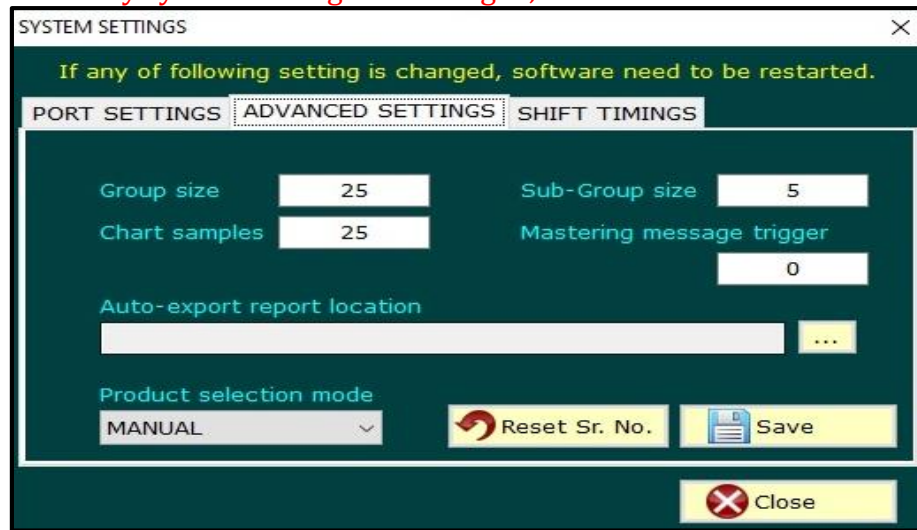

Figure 7
- Make the following settings by clicking on the advanced settings as shown in figure 7.